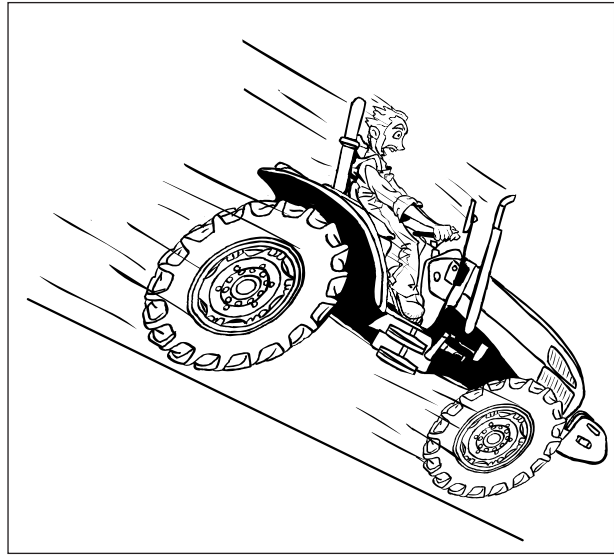

Fig.2-40
- Shift to a lower gear before going up or downhill. (Fig.2-40)
- Keep tractor in gear. Never coast with the clutch disengaged or transmission in neutral (Fig.2-40).